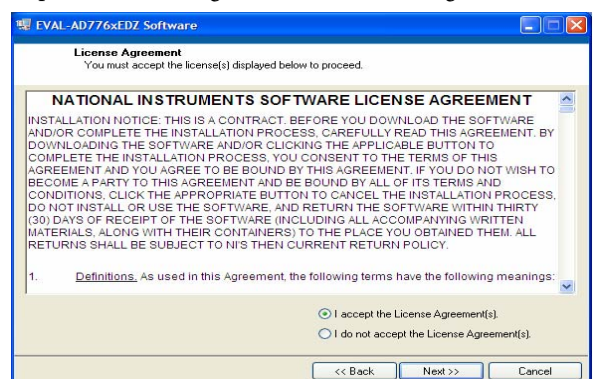

Figure 4. Accept license agreement
4. Accept the license agreement by selecting the correct option and clicking "Next" as shown in Figure 4.